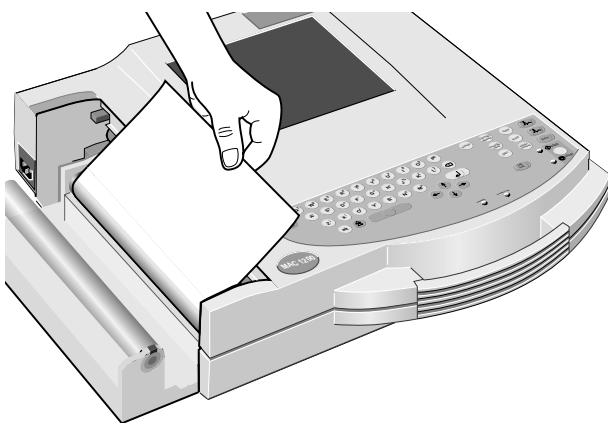

Figure 10-3. Guiding the leading paper edge over the guide roller
- Pull the top sheet out of the compartment and guide it around the guide roller (Figure 10-3).